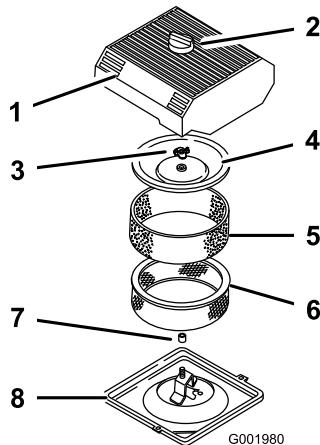

Figure 39
3. Clean around the air cleaner to prevent dirt from getting into the engine and causing damage (Figure 39).
4. Loosen the knob on the air-cleaner cover and remove the cover (Figure 39).
5. Carefully slide the foam element off the paper element (Figure 39).
6. Remove the cover nut, and remove the cover and paper element (Figure 39).
1. Carefully slide the foam element onto the paper air-cleaner element (Figure 39).
3. Install the cover nut finger-tight against the cover (Figure 39).
4. Install the air-cleaner cover and knob (Figure 39).